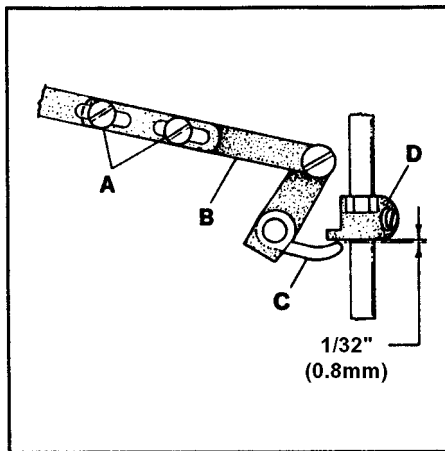

FIG. 22
Replace the presser spring and the presser bar regulating screw. Loosen screws (A, Fig. 22) in lifter lever link assembly (B) and position lever (C) so there is 1/32" (0.8mm) clearance between it and presser bar guide (D) when the feed dogs are below the throat plate.
Make sure the $1/32$ " (0.8mm) clearance between the presser bar lifter lever and presser bar guide has been maintained. Refer to Fig. 22 if readjustment is necessary.